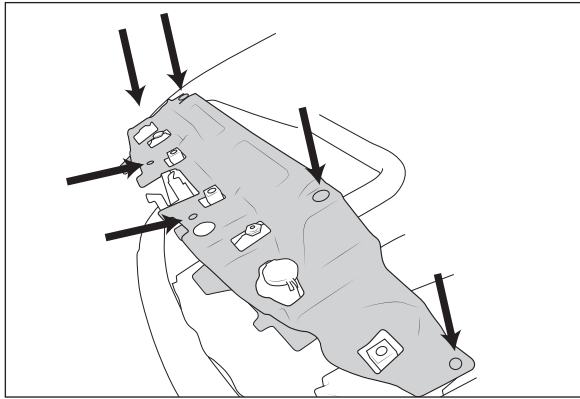

Figure 1
- A. Remove the upper shroud by prying the six plastic push pins out (fig. 1).